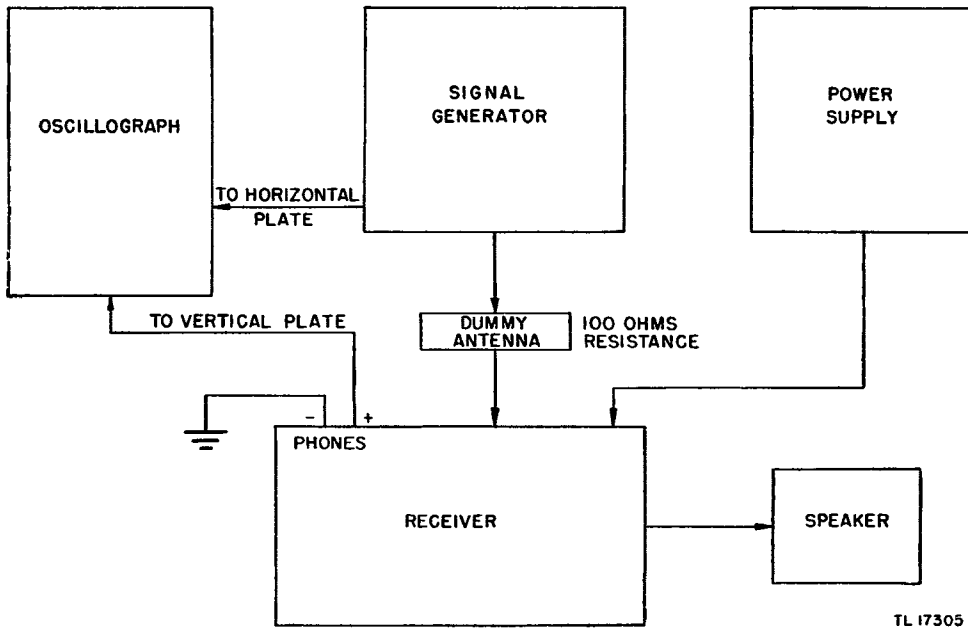

Figure 20. Block diagram of alignment set-up using oscillograph.
**18. Alignment with Frequency-Modulated Signal Generator and Oscilloscope (fig. 20)**